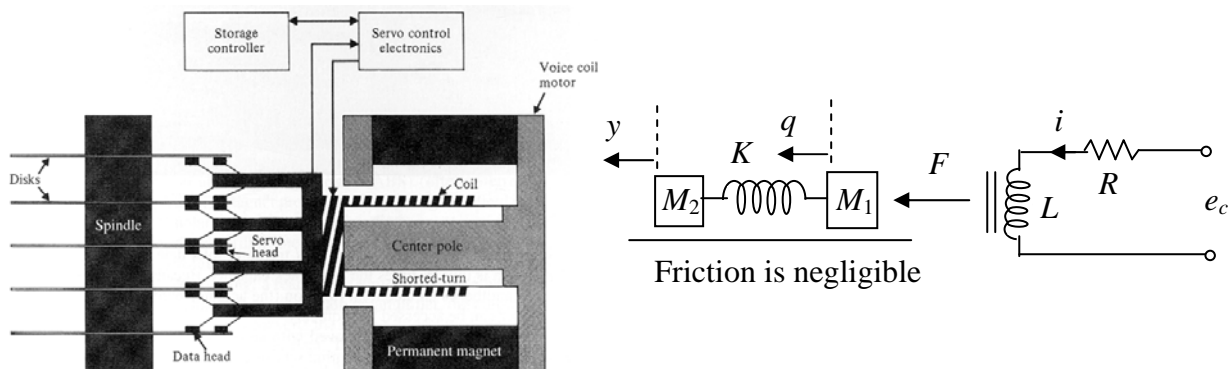

Figure 3
4. In large disk drive systems containing linear actuators, the motion is control by a voice-coil motor (VCM), as shown in Figure 3. The force F produced is proportional to the current i in the coil. The link between the head (M_2) and the servo body (M_1) is flexible with spring constant K . Draw a block diagram of the system and obtain the transfer function from input e_c to output y . The relevant equations are given below.